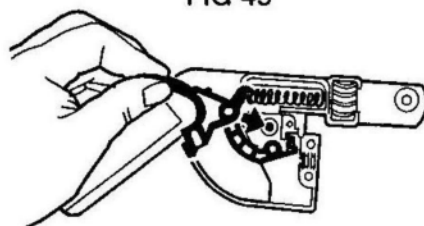

FIG 47
3. Fit throttle trigger with top hook #43288 and throttle trigger compression spring #43198, fit trigger then compression spring (Fig 47).